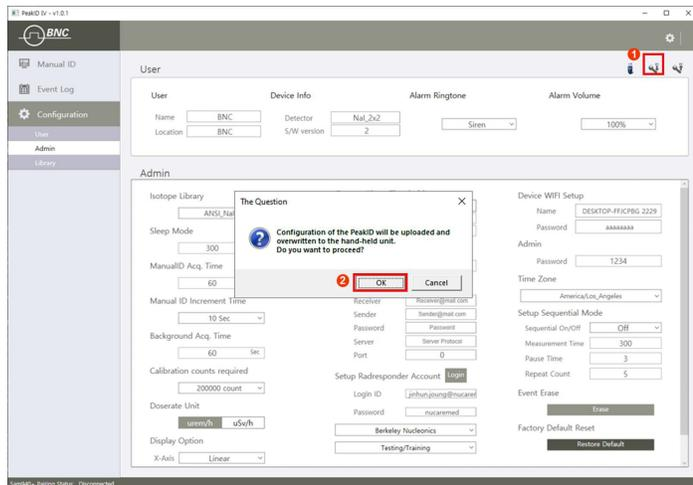

Figure 7.9.4. Upload Configuration to the SAM 940+.
1. Click the **Admin** menu (Figure 7.9.4) ①.